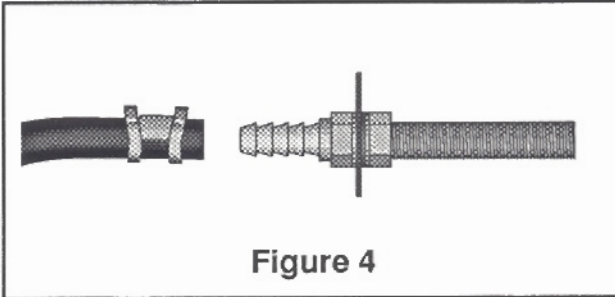

Figure 4
- M. Slide a hose clamp over hose. Push tubing onto fitting covering all barbs. With pliers slide the hose clamp forward until it fully covers the barbed section (Figure 4).
F. With pliers slide the hose clamp forward until it fully covers barbed section (Figure 4).